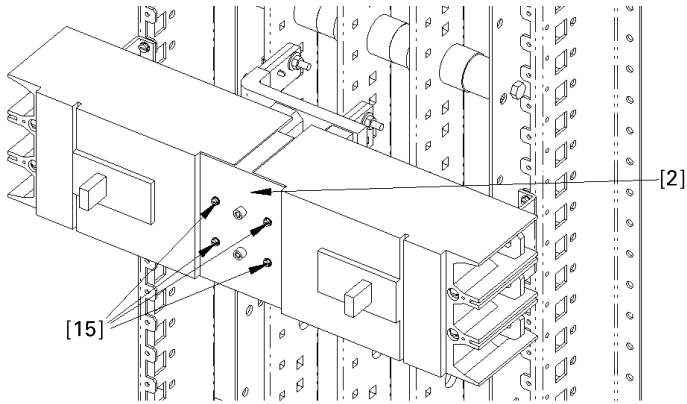

Figure 23. Installing the terminal cover over the breaker terminals.
- 8. Install the terminal cover.** Install the terminal cover over the center of the assembly, as shown in Figure 23. Secure the cover with thread-cutting screws [15].